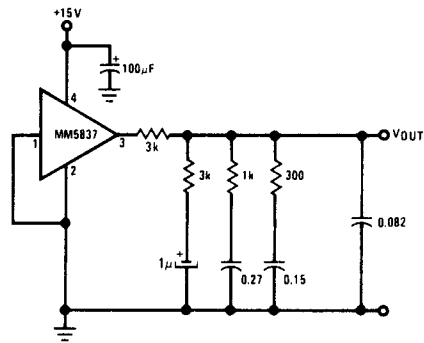

Fig. D-1: Pink Noise Generator
- d) Pink Noise Generator. A suitable circuit is shown in Fig. D-1.
- 3) Connect the input of the N&D test set to the Main Chassis TEST JACKS through a 75us deemphasis network. (See Fig. D-1 in the **Optimod Operating Manual.**)